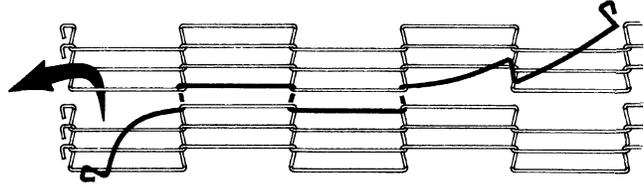

Figure 91: Pull Splicing Link Straight
- Pull the end of the splicing link toward the edge of the conveyor to straighten it out. Refer to Figure 91.